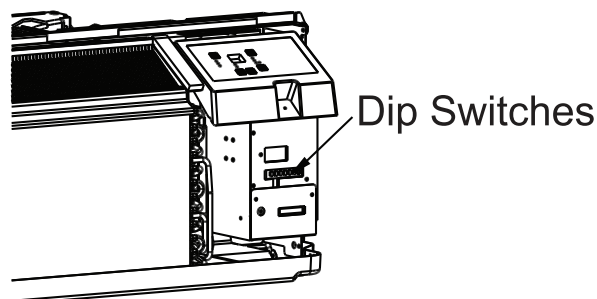

Fig. 3.2
- The DIP switches are accessible without opening the control box. Please refer to **Fig. 3.2**.